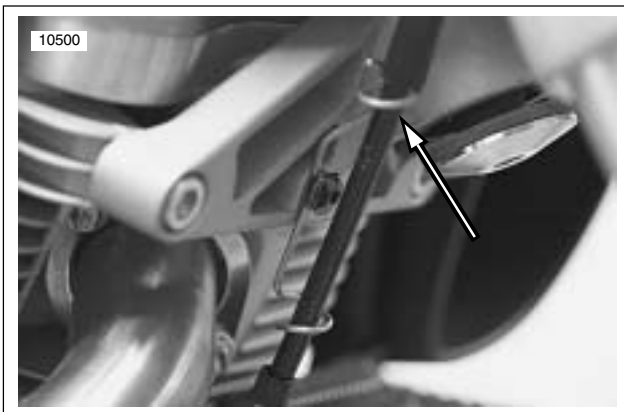

Figure 2-85. Clutch Cable Wire Form
2. See Figure 2-85. Remove clutch cable wire form.
4. Tighten front isolator bolt (6) to 49-51 ft-lbs (66-69 Nm).
5. See Figure 2-85. Install clutch cable wire form. Tighten fastener to 12-36 in-lbs (1-4 Nm).